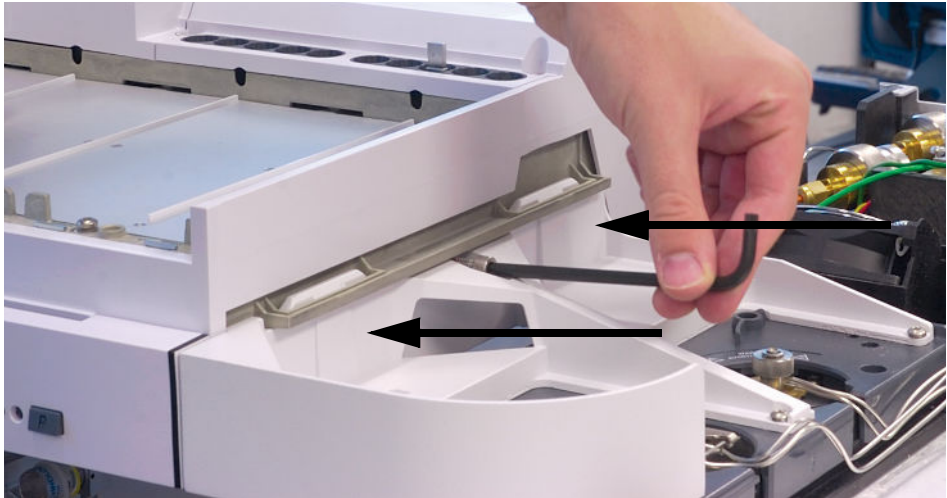

Figure 5 Sample tray correctly installed.
- 3 Once attached, make sure that the sample tray is lying flat against the mounting bracket. Each tab on the mounting bracket must be fully latched to the tray bracket (Figure 5).